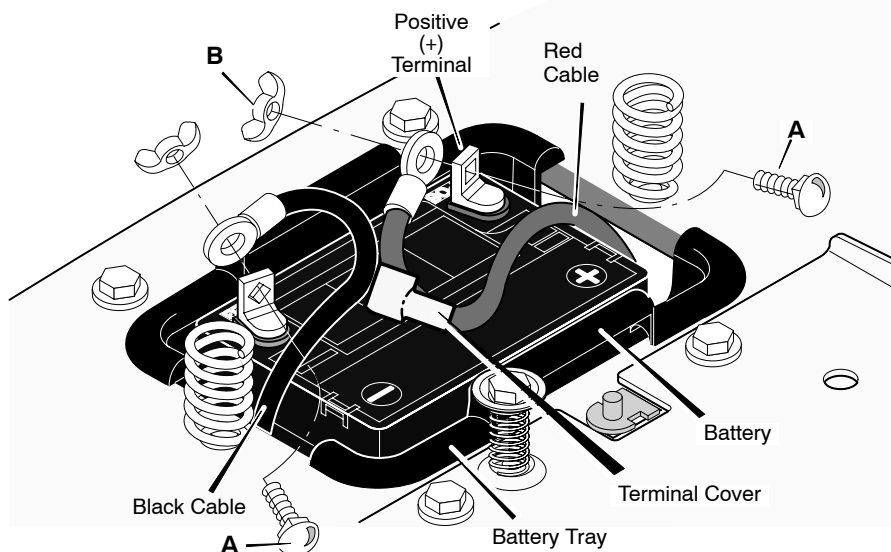

Figure 5
1. Check the top and the side of the battery for the location of the **battery date** (Figure 5).
2. Fasten the **red cable** and **terminal cover** (if equipped) to the **positive (+)** terminal with the fasteners as shown (Figure 5).